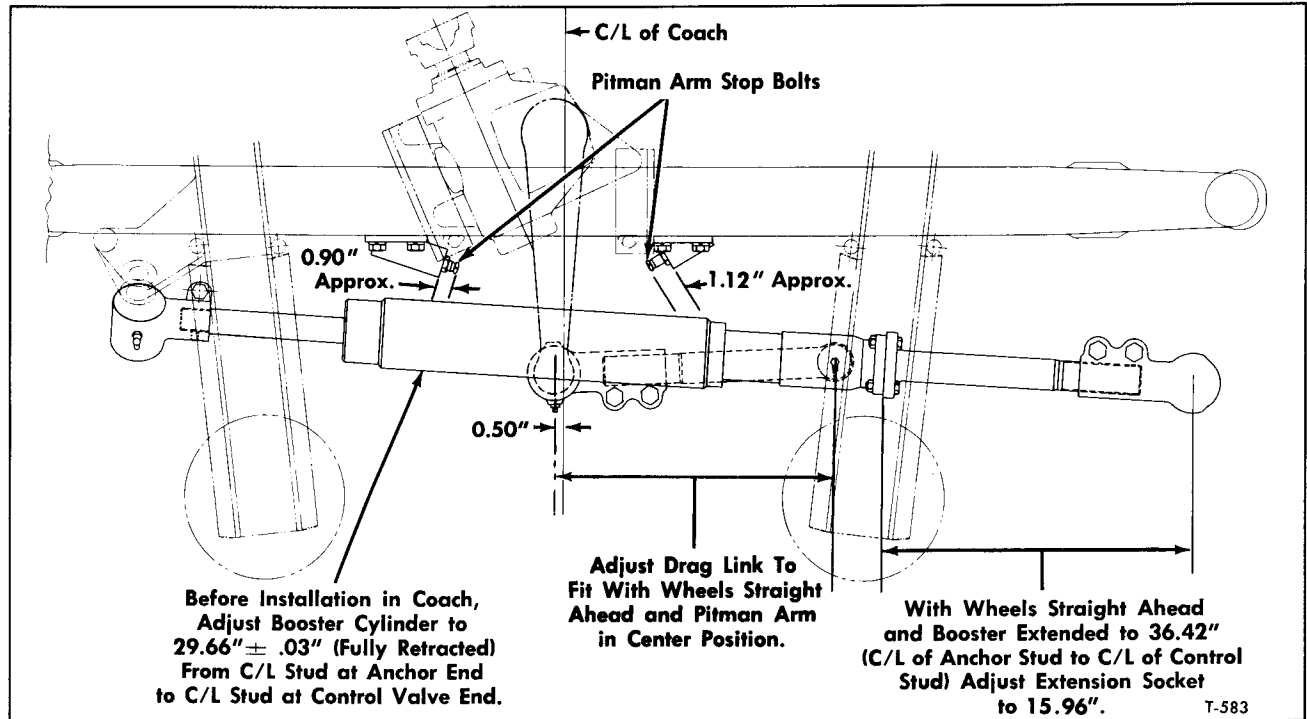

Figure 6—Power Steering Booster Cylinder Installation
1. Before installing booster cylinder (2) assembly in coach, compress booster cylinder into fully retracted position; then thread piston rod end socket assembly (1) on booster cylinder piston rod to the dimension shown in figure 6, measured from centerline of socket end tapered stud (1) to centerline of booster cylinder ball stud (4).
2. Position dust cover and dust cover spring on booster cylinder ball stud (4).
3. Position washer, dust cover, shield, and dust cover spring on piston rod end socket tapered stud (1).
4. Check length of cylinder extension and end socket assembly (5), measuring from center of end socket ball stud to flange of extension (fig. 6). Distance should measure 15.96". Adjust as necessary to obtain this dimension.